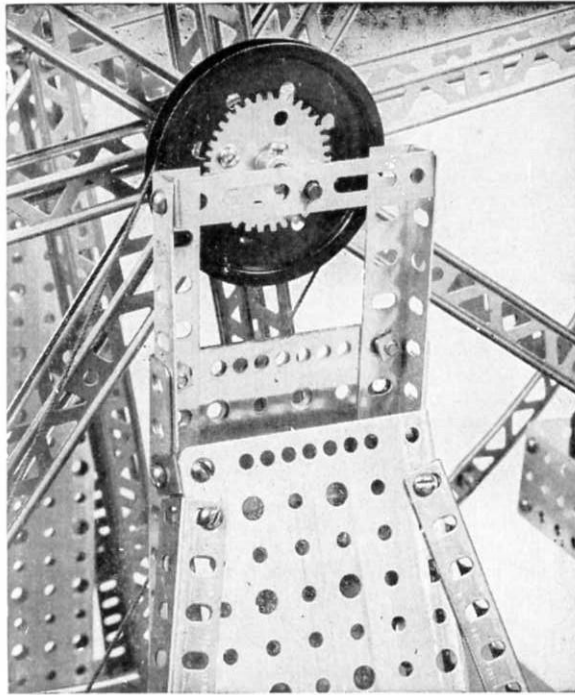

FIGURE 4
In Figure 1 and Figure 4 you will see how the supports are constructed. Each support is built with two (MN) 12" base plates fastened together to form the vertical member with a single 12" base plate fastened on a slant to the base plates with (CH) right angles, see Figure 4. Two (DP) 12" angle girders are fastened to the single base plate and then to the mounting board. As a bottom support (B) 5" girders are
In Figure 4, you will see that 2 (MO) 3" angle girders are fastened to extend the vertical support higher. Across the top of these two 3" angle girders is fastened an (N) long double angle, the center hole of which is used to support the large wheel.
As shown in Figure 4, a large pulley is fastened to the 12" axle. The pulley is made with 2 (BN) regular turret plates fastened together with a (CJ) 36 tooth gear.